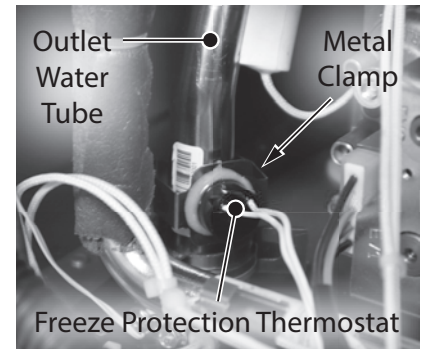

Figure 44 - Remove freeze protection thermostat
- 7 Locate freeze protection thermostat installed to the outlet water tube as shown in Figure 44. The thermostat is secured to tubing by a metal clamp. To remove thermostat from piping, gently pull on metal clamp and the assembly will come free. Dispose of properly.